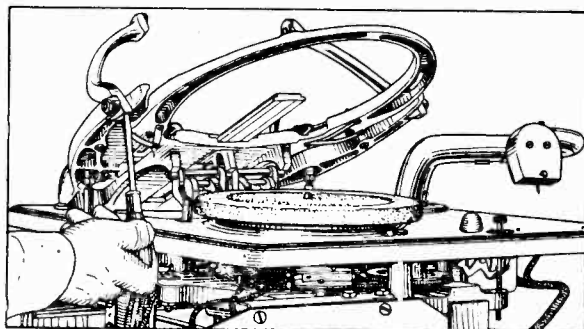

Fig. 10—Adjusting Hopper Arm Screws
- c. Hopper arm improperly aligned, allowing the two bottom records to pass under the arms. Lower the hopper arms by turning the small adjusting screws as shown in Fig. 10, so that both hopper arm spacers touch the lift ring when the latter is in its raised position and there are no records in the hopper. Spacing for gates on hopper arms should be between .093" and .107".